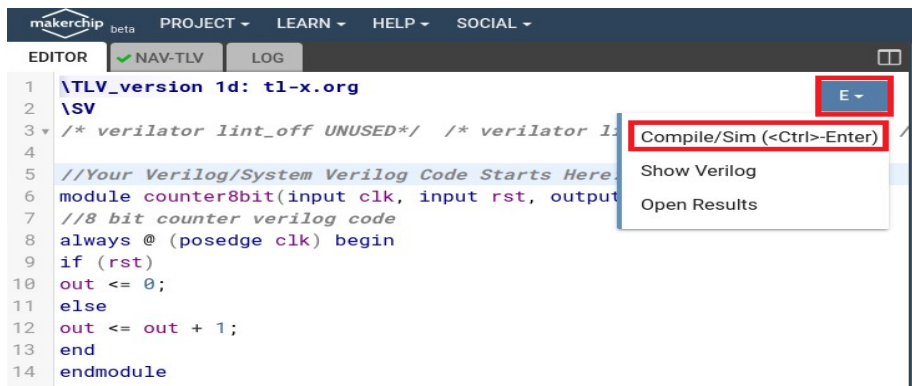
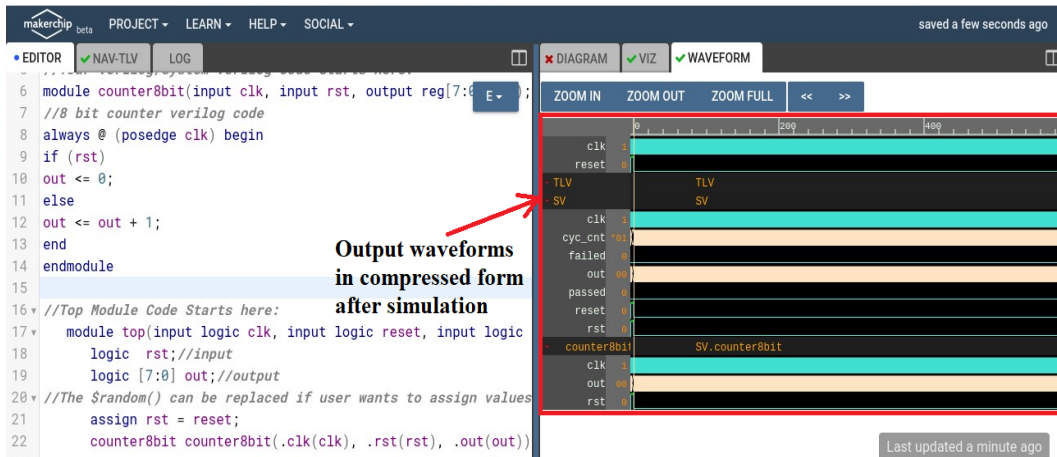

Figure 10.16: Compiling after removing lintoff errors
Figure 10.19: Output waveforms in compressed form of 8 bit Counter
- Next, click on the **Editor** tab in the editor as shown in Fig. 10.16, then click on **Compile/Sim** button to compile the verilog code.
- Now click on the **Editor** tab and then click on **Compile/Sim** button in the editor as shown in Fig. 10.16, it will display the following waveform window as shown in Fig. 10.19. This means that the verilog code of 8 bit Counter is successfully
compiled. Kindly, note that in Fig. 10.19, inputs and output waveform are in the compressed form.
16. Fig. 10.20 shows the expanded view of inputs and output waveforms of 8 bit counter. The waveforms in Fig. 10.19 can be expanded by clicking on **Zoom In** button as shown in Fig. 10.20.